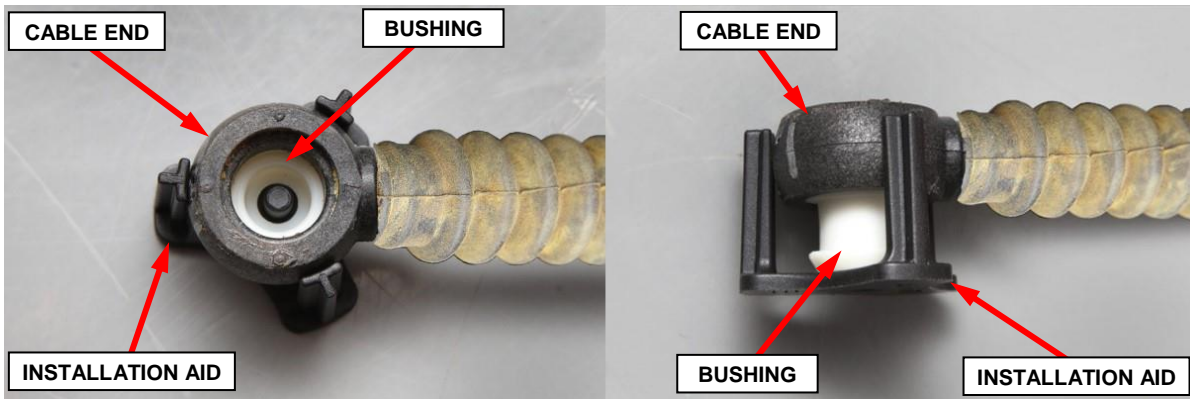

Figure 7 – New Bushing and Installation Aid Positioned on Cable End
10. Position the NEW bushing and installation aid to the cable end (Figure 7).